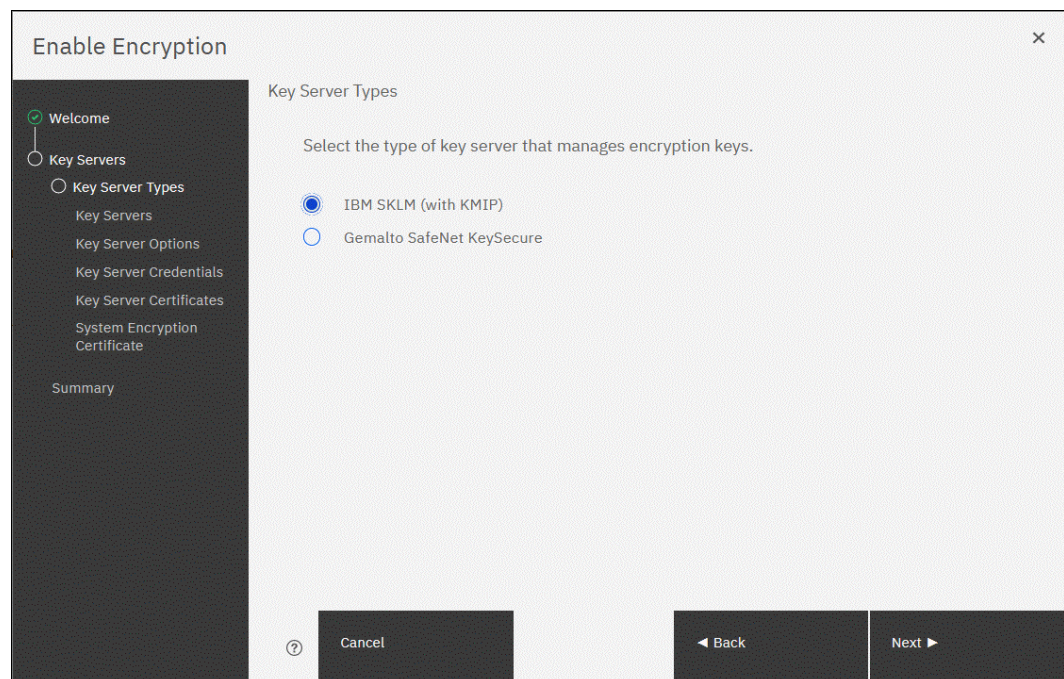

Figure 12-29 Selecting SGKLM as key server type
3. Select **IBM SKLM (with KMIP)** as the key server type, as shown in Figure 12-29.